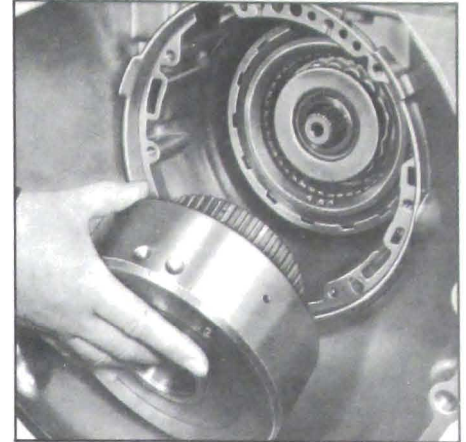

Figure 5-541
7. Remove forward clutch assembly. See Figure 5-541.